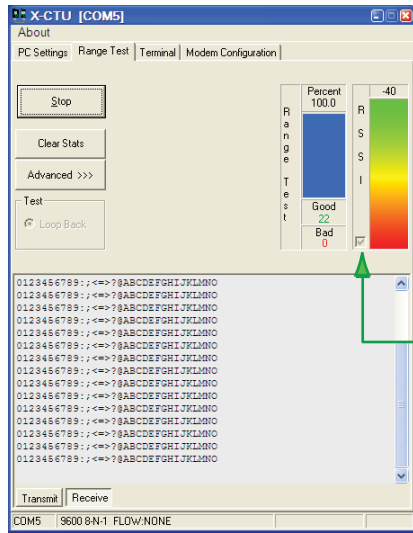

Figure 3. Range Test tab
3. Select the “Range Test” tab [Figure 3].